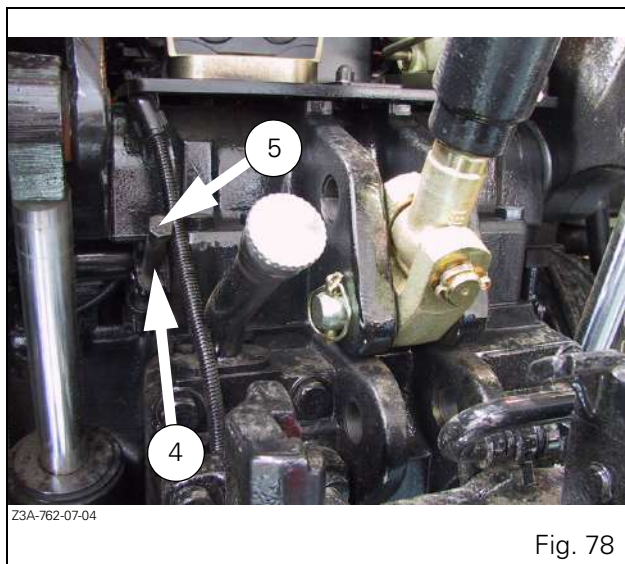

Fig. 78
- take off the spacer (Ref. 4 Fig. 78) after removing the screw ref. 5,